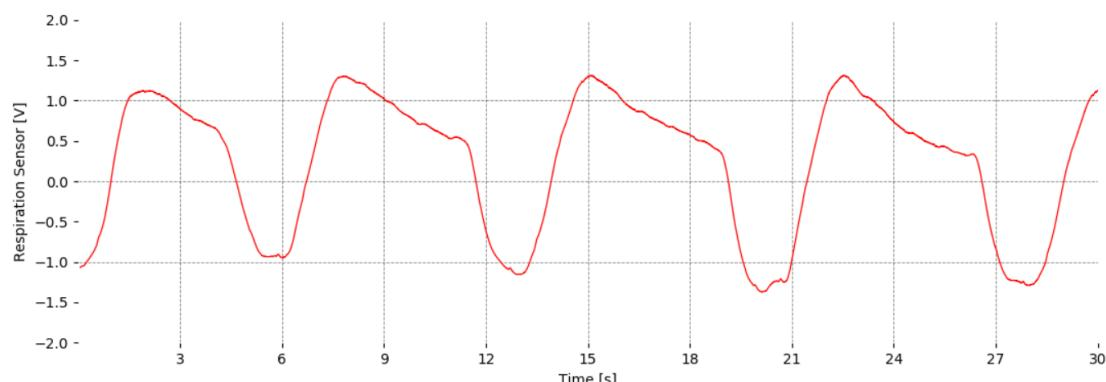

Figure 2: Typical unfiltered sensor output (at rest and during a deep breath)
Figure 2 shows a typical unfiltered **PZT** sensor output acquired while at rest and during a deep breath. The raw digital sensor values received from the biosignalsplus device ranged between 0 and 2^n-1 (**n=sampling resolution**) and can be converted into the original unit of measurement of this sensor (V) using the transfer function found in section **Transfer Function (Conversion Formula)**.